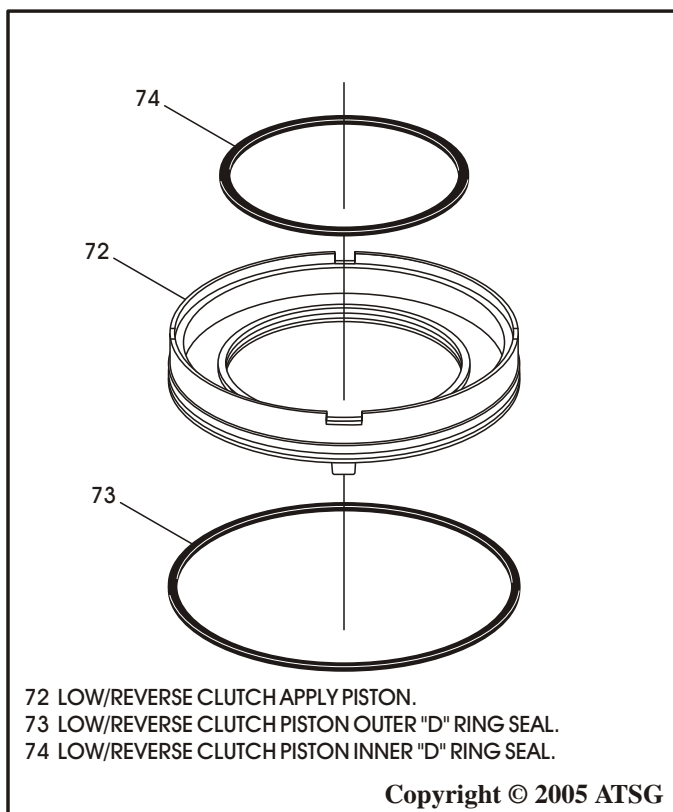

Figure 167
28. Install new inner and outer "D" ring seals onto low/reverse piston, as shown in Figure 167, and lube with a small amount of Trans-Jel®.